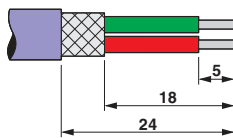

Figure 17 SUBCON-PLUS-PROFIB/AX/SC with screw connection
- Strip off the conductors (see Figure 17).